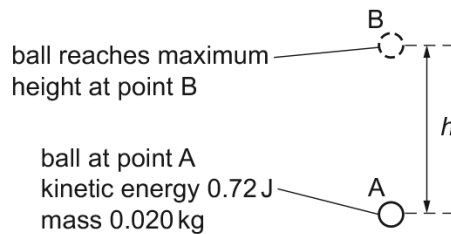

Fig. 3.2 (not to scale)
- (c) The ball in (b) leaves the toy at point A and moves vertically upwards through the air. Point B is the position of the ball when it is at maximum height h above point A, as illustrated in Fig. 3.2.